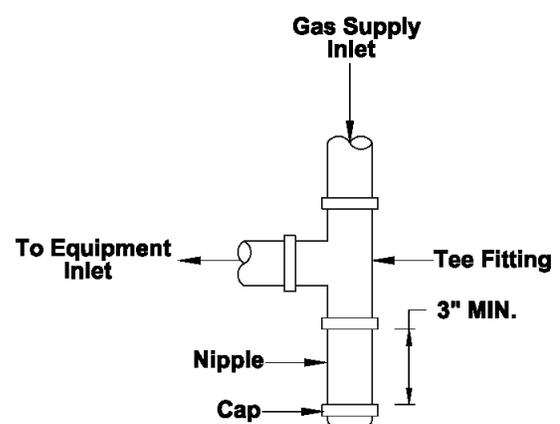

Figure 26 - Sediment Trap (Typical)
- NFPA Code and Hearthstone require the use of a dedicated sediment trap just upstream of the unit. Damage to the valve, or other components due to the lack of a sediment trap are not covered by warranty (see figure 26).